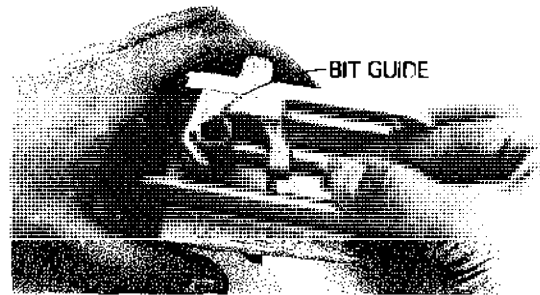

Fig. 10-43 Locking bit guide in place.
2. Choose the proper size bit guide and set it, bevel end up, in the slide with the bottom of the guide flush with the underside. See figure 10-43.